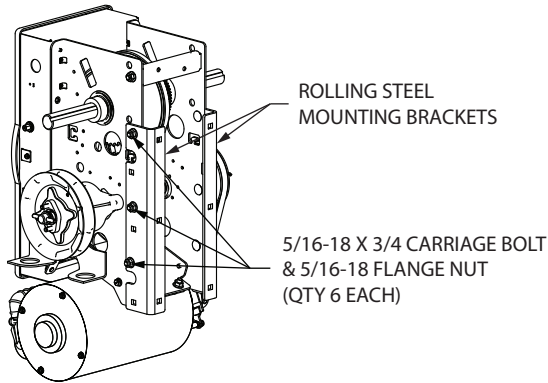

Figure 1
- 1) Remove wall mount brackets from operator. Attach rolling steel mounting brackets to the operator using the fasteners provided. **Figure 1.**